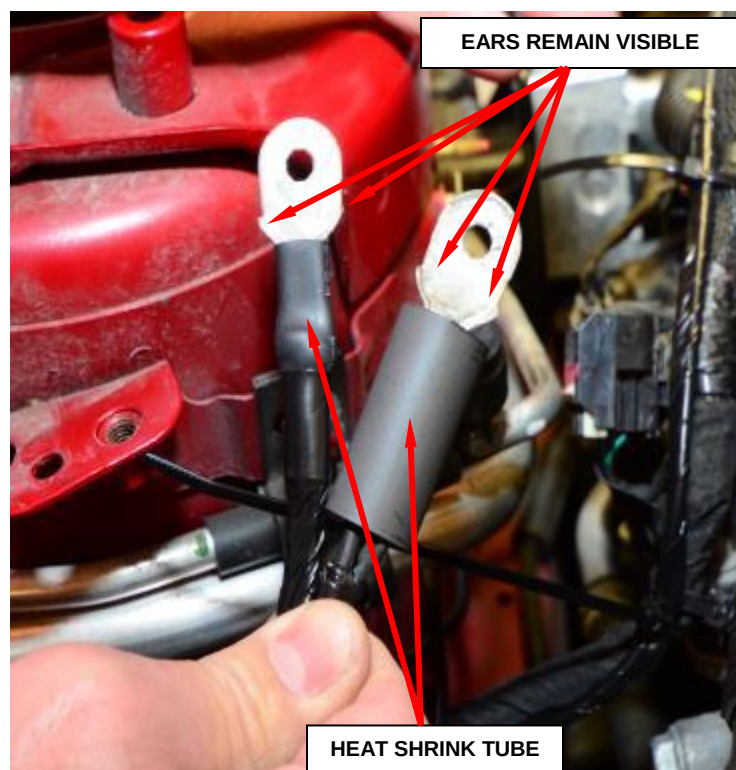

Figure 10 – Heat Shrink Tube
25. Slide the supplied heat shrink tubes evenly over the two ground wire terminal crimps and apply heat to the shrink tube until glue comes out of both ends of the shrink tube (Figure 10).